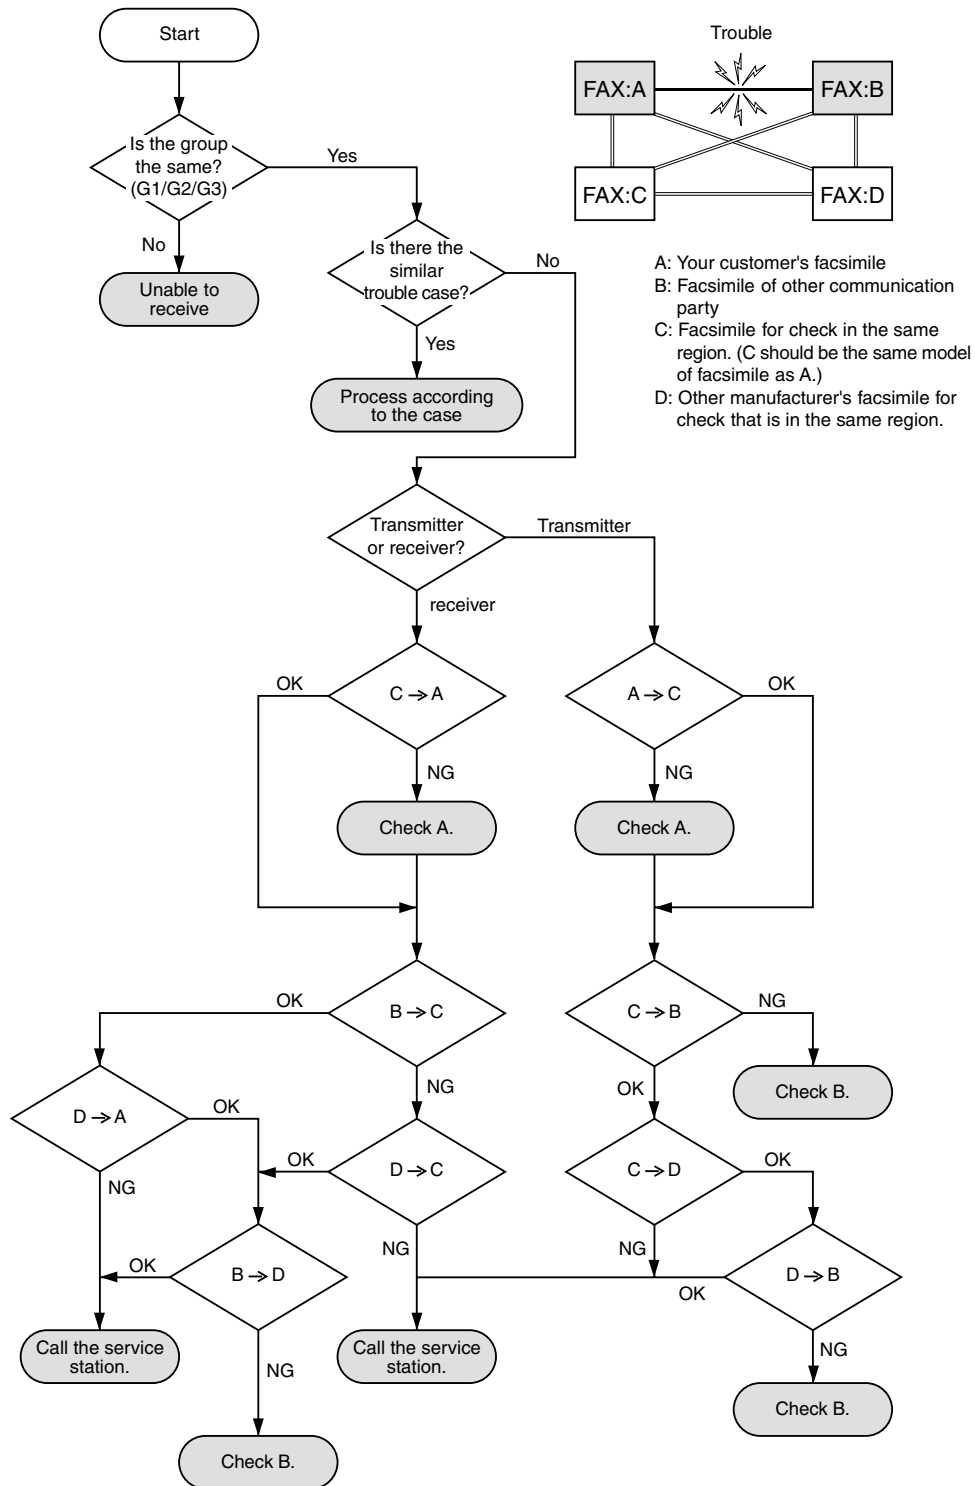

Figure 4-11 Flowchart for Processing Communication Troubles with other manufacturer's facsimiles
"Call the service station" in the flowchart (*Fig. 4-11*) means that problems may occur with regard to the communication compatibility of facsimile, consult the matter with the staff in charge at the service station. To quicken the resolving of the problem, report the information listed in (1) above.